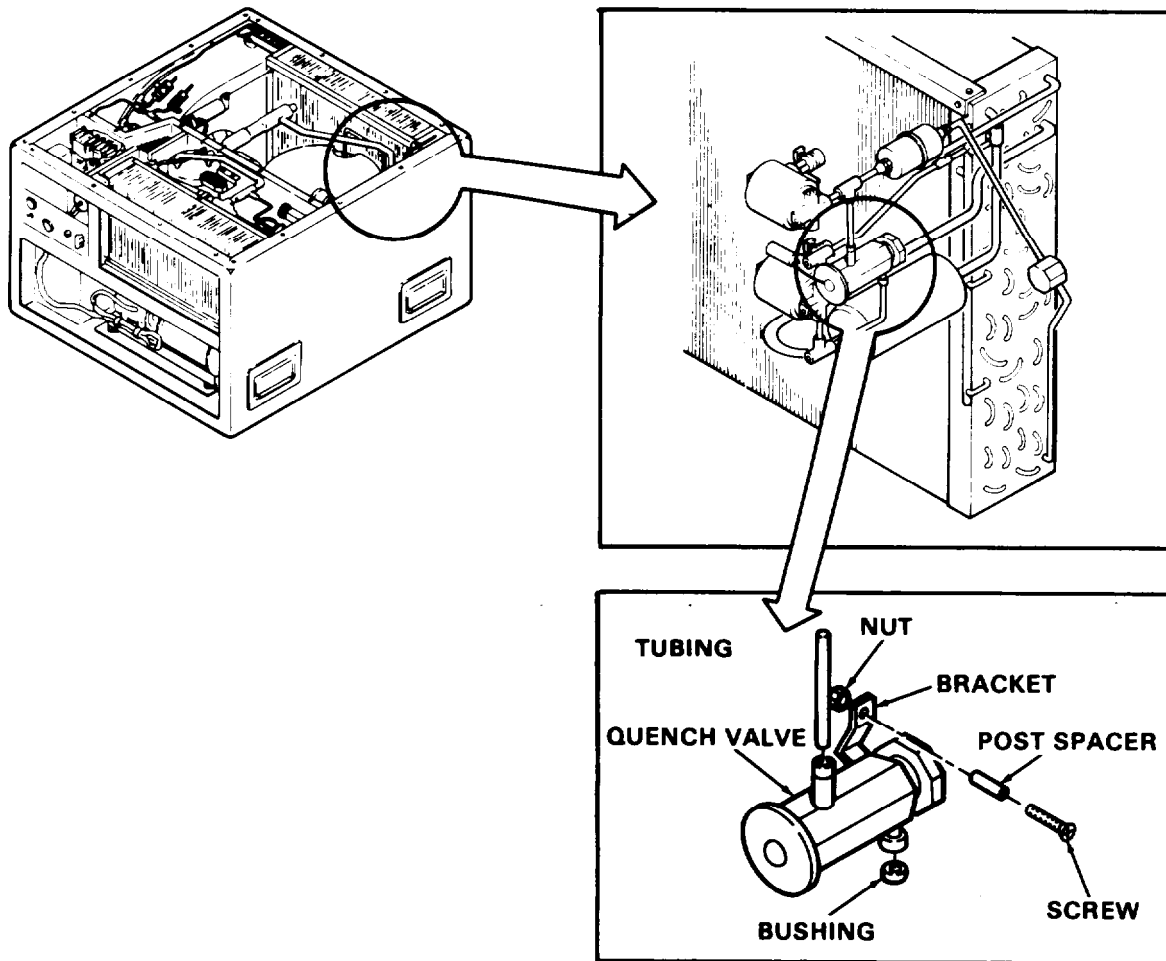

Figure 5-10. Quench Thermal Expansion Valve
- (1) Refer to paragraph 6-3 and discharge the refrigerant system.
- (2) Refer to paragraph 4-18 and remove the top rear cover.
- (3) Refer to figure 5-10. Soften the mastic in the bulb well and remove the expansion valve bulb. Take care to avoid damaging the capillary tube.
- (4) Remove the expansion valve clamp.
- (5) Unsolder the expansion valve clamp.
- (1) Refer to figure 5-10 and mount the expansion valve against the compartment wall using the mounting clamp.